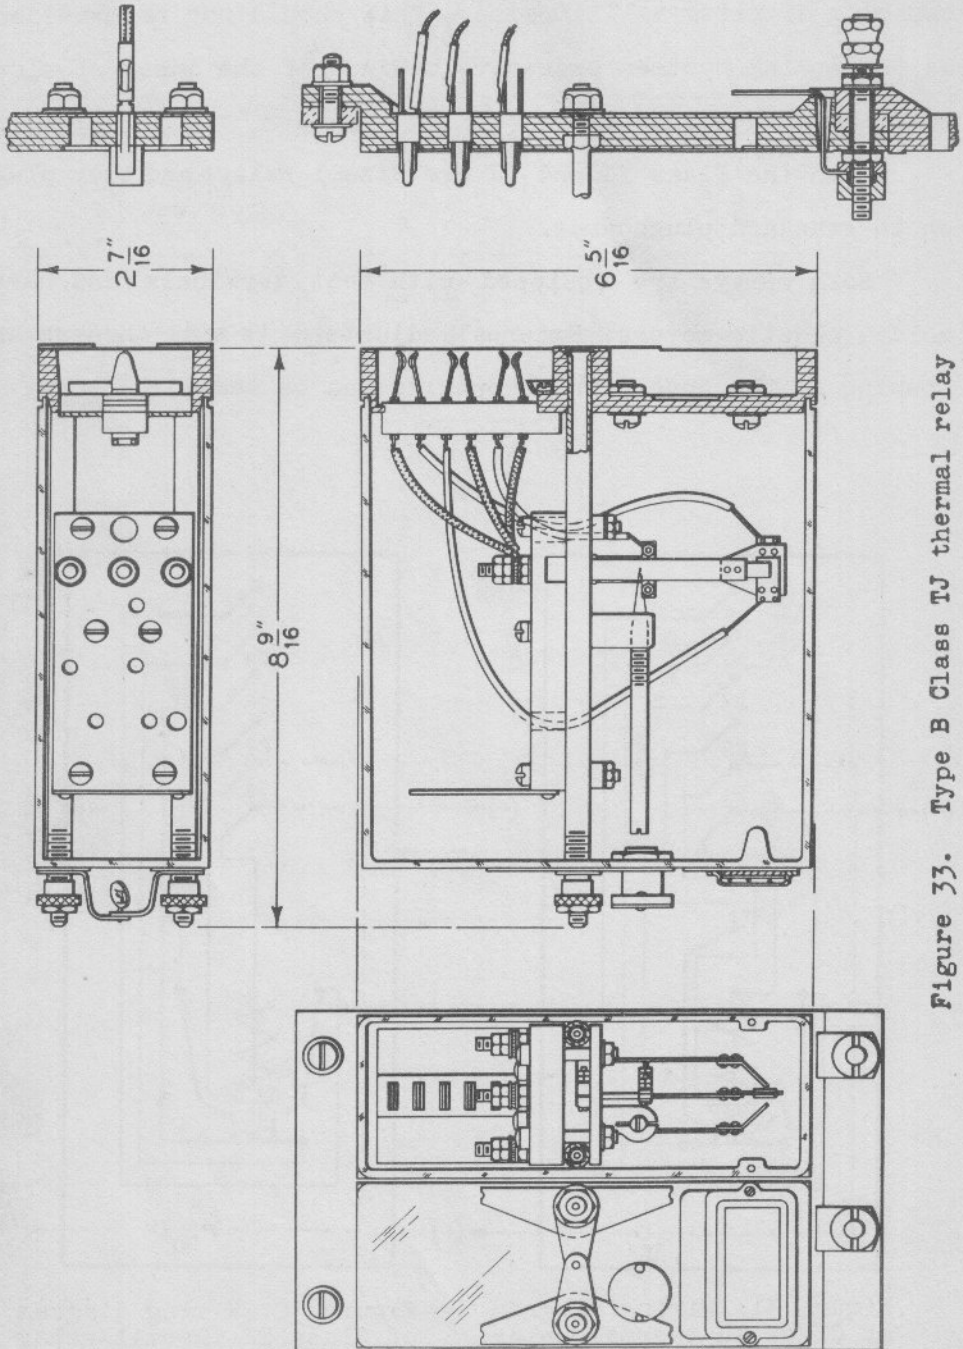

Figure 33. Type B Class TJ thermal relay
- (b) **Class TJ** having one normal closed independent and one normal open independent contact. Complete operating cycle can be varied from 15 seconds to 30 seconds on 10 volts. This relay is illustrated in Figure 33 page 40.